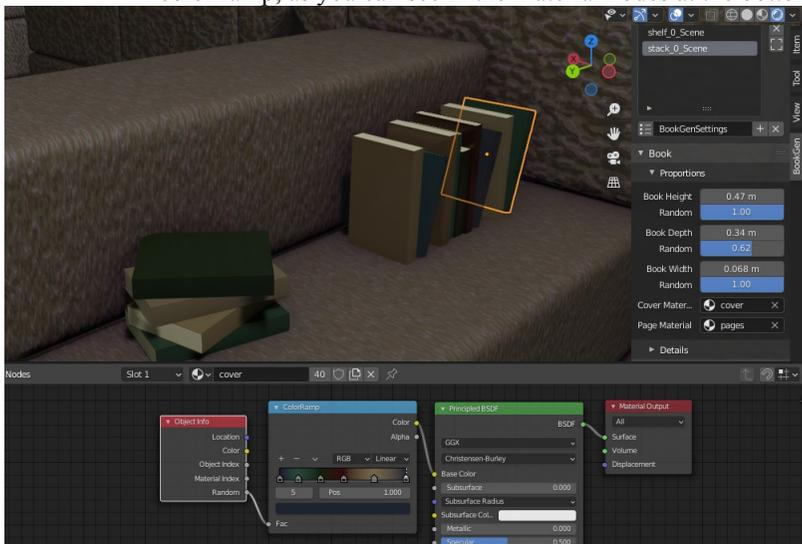

Figure 6-8 BookGen with random cover colors
5. You might be forgiven for expecting to find all the controls for BookGen under the menu option to add other mesh objects, after all that's where the mesh extras appeared. However this add-on follows the normal convention of putting all its controls in a tab in the Sidebar. The functionality is fairly simple so using it should be intuitive but there is a good video on Oliver's website if you get stuck. Figure 6-8 was very quick to set up using the wall factory and this book generator. Each book is a separate object so it is quite simple to create random colors for each cover, using the object info node random output and a color ramp, as you can see in the material nodes at the bottom.